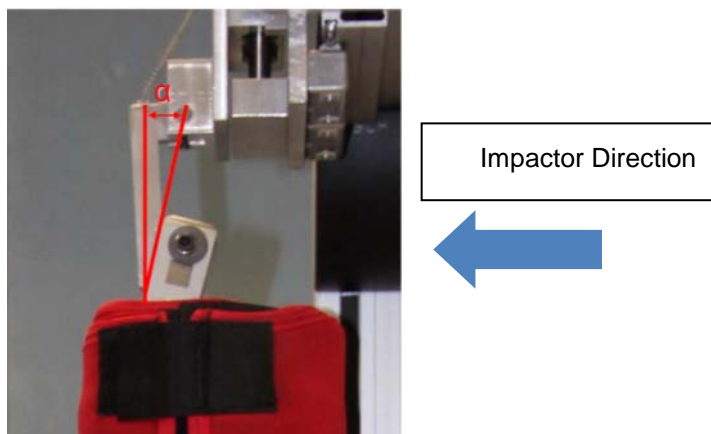

Figure 97 . Launch guide with 15° tilt toward guided impactor
Step 2: Make sure the launch guide at the top of the femur is locked tilting 15° towards the impactor. Lock the guide in position using the two M6 screws both sides. This allows the leg to hang vertically on the spring loaded release mechanism. See Figure 97 below.